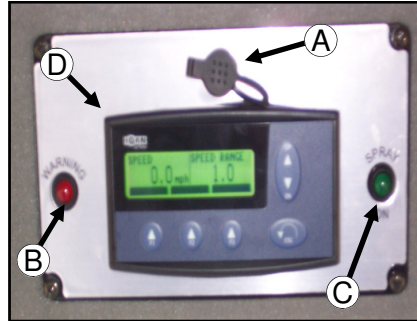

FIG. 4.8-1
**HAGIE DIAGNOSTIC PORT**– The diagnostic port (fig. 4.8-1, item A) is used for diagnostic purposes only. The Hagie Customer Service department can hook into your system to gather information on faults and malfunctions of the machine. From this port, they would also be able to re-program the machine if it became necessary. This port is not for the use of personal computers or personal digital assistants (PDA's).
**WARNING INDICATOR LIGHT**– The warning indicator light (fig. 4.8-1, item B) will come on if there are any malfunctions or faults in the systems monitored by the MDM. These warnings include, but are not limited to: engine oil pressure, oil level, hydraulic oil level, coolant temperature, battery voltage, and fuel level. An explanation of the fault will appear on the screen. If a fault appears, shut engine off immediately and resolve the fault before continuing. Failure to do so may result in damage to the system with the detected fault.